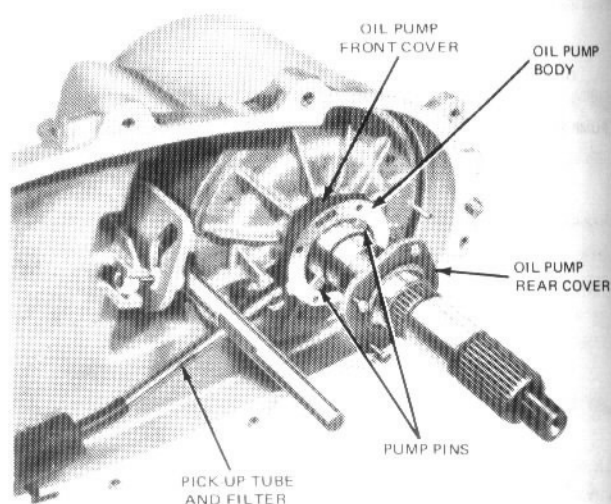

FIG. 10 Removing Oil Pump Assembly
13. Remove the four oil pump attaching screws and remove the oil pump rear cover, pickup tube, filter and pump body, two pump pins, pump spring, and oil pump front cover from the rear output shaft (Fig. 10).